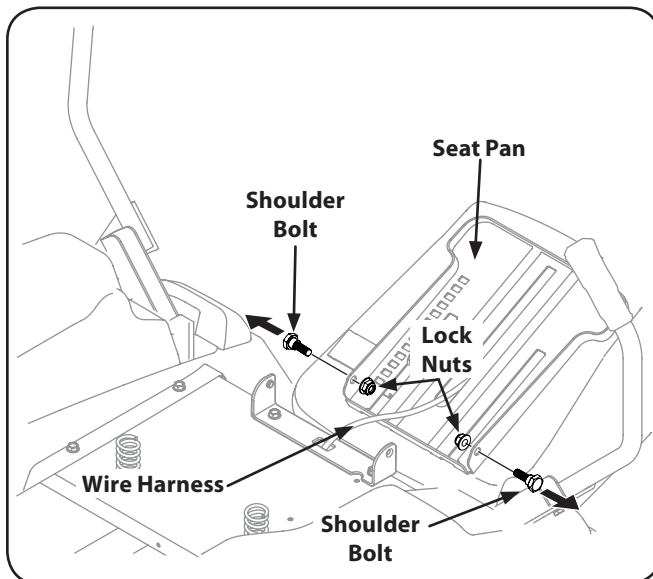

Figure 3-4
2. Remove the two shoulder bolts and lock nuts in the seat pan as shown in Fig. 3-4.